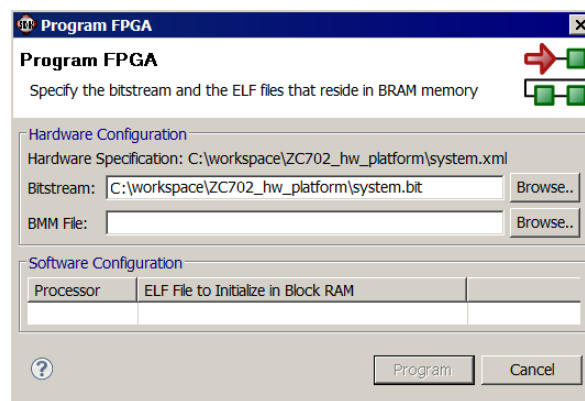

Figure 3-11: Program FPGA Dialog Box
6. Because you have a bitstream for the PL Fabric, you must download the bitstream. To do this, select **Xilinx Tools > Program FPGA**. The Program FPGA dialog box, shown in Figure 3-11, opens. It displays the bitstream exported from PlanAhead.